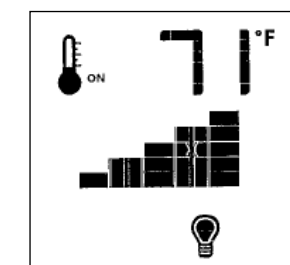

Fig. 14.16. Lamp ON.
- Pressing the Up Arrow Key will turn the Lamp ON. Press the arrow keys to adjust the brightness. Fig. 14.16.